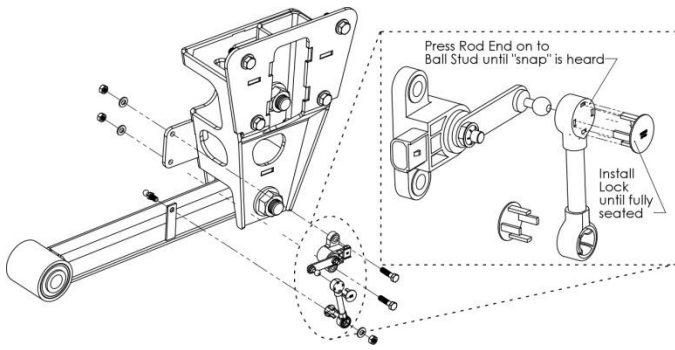

Figure 25. Height Sensor and Linkage installation.
3. Attach the Height Sensor to the Left Hand (Driver Side) Hanger using the 5/16"-18x1.25" Hex Flange Bolts and 5/16"-18 Locking Flange Nuts. Torque to **14-17 ft-lbs.** See Figure 25. **Do not over torque.**